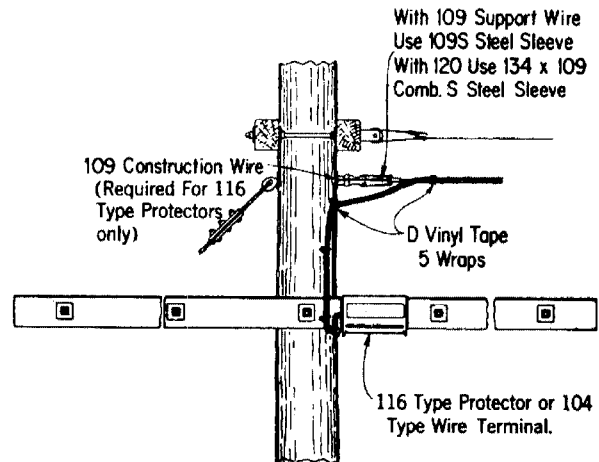

Fig. 14 — Crossarm or Wire Deadend Pole
4.03 At wire deadend poles involving cross-arms, the wire terminals or protectors can be located on the crossarm as shown in Fig. 14.